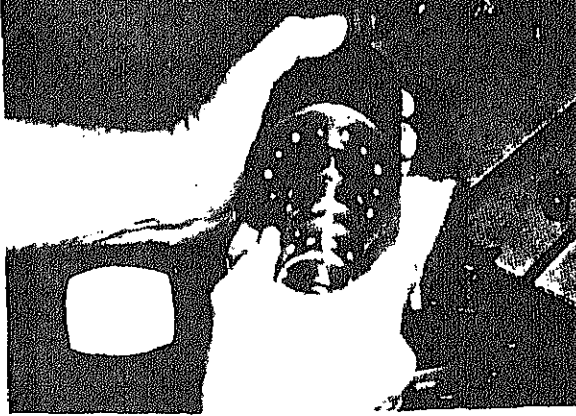

FIGURE 9-44.
j. Position the housing on a solid surface with the port face down. Start the assembly so that the splined end of the spool enters the 14 hole end of the housing first (see figure 9-44).